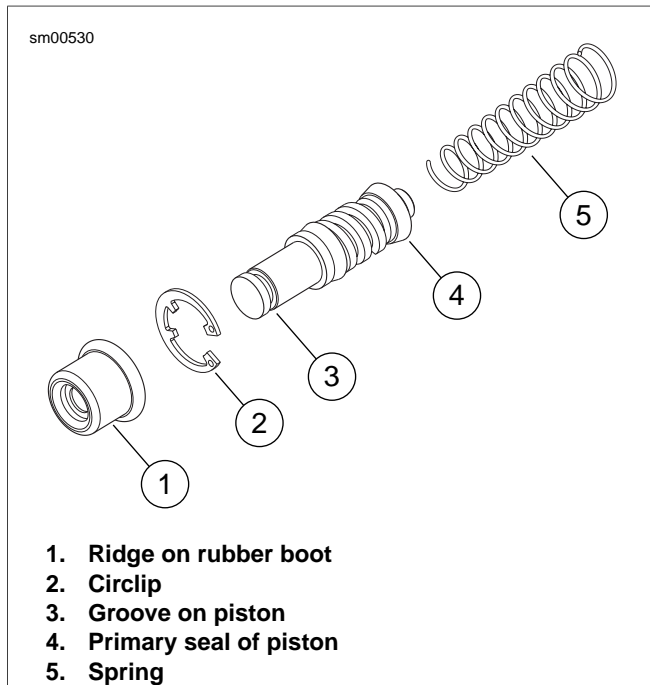

Figure 2-52. Front Master Cylinder Piston Assembly
2. See Figure 2-52. Assemble **new** piston components, placing small end of spring (5) behind primary seal of piston (4).
6. See Figure 2-52. Install ridge on rubber boot (1) into groove on piston (3).